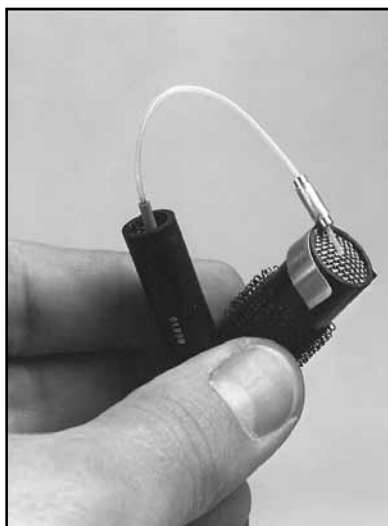
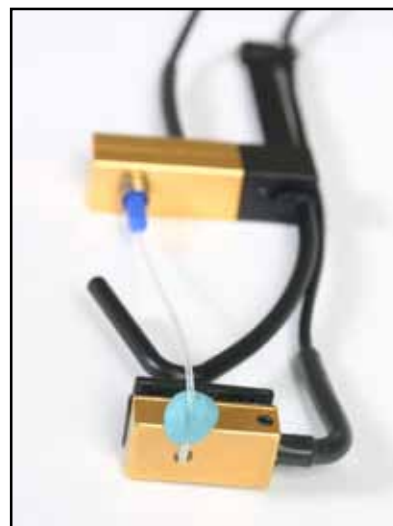

Figure C-6A: Attach probe to the reference microphone using the legacy (old style) probe microphone set.
Figure C-6B: Attach probe to the reference microphone using the integrated probe microphone.
9. If you have the old style microphone, attach the calibration clip to the reference microphone and thread the probe tube through it so that the end of the probe tip is centered on the grill of the reference microphone. See Figure C-6A. If you have the integrated microphone, place the end of the probe tip over the reference microphone and secure with Fun Tak. See Figure C-6B.